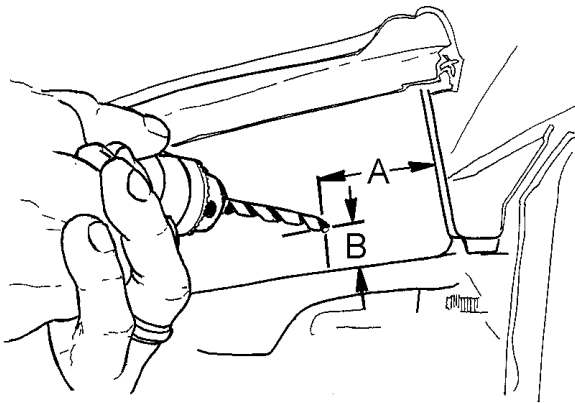

Figure 7 Drill Hole in Cowl Tray
10. Locate and drill a 1/4 inch hole in the cowl tray that is 1 inch (25 MM) vertical from the bottom edge of the cowl tray (Figure 7, Item B) and 4 inches (100 MM) from the edge of the cowl tray on the drivers side of the vehicle (Figure 7, Item A).